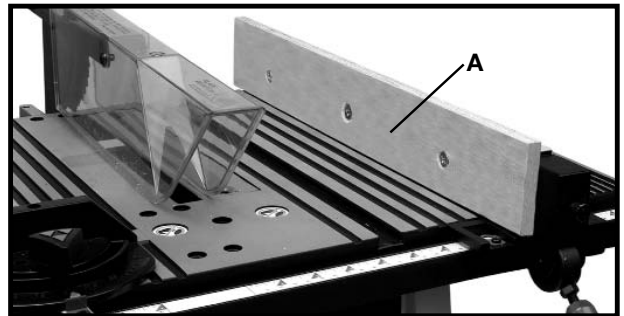

Fig. 47
When performing special cutting operations – and that operation may cause the cutting implement to contact the fence – it is necessary to add a wood facing (A) Fig. 47, to one side of the rip fence as shown. The wood facing is attached to the fence with wood screws through holes drilled in the fence. 3/4-inch stock is suitable for most work, although an occasional job may require one-inch facing.